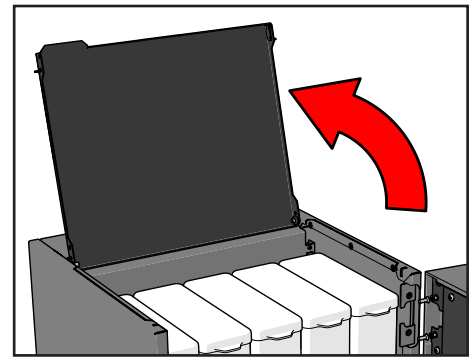

Figure 49.
2. Open the top cover (see Figure 49).